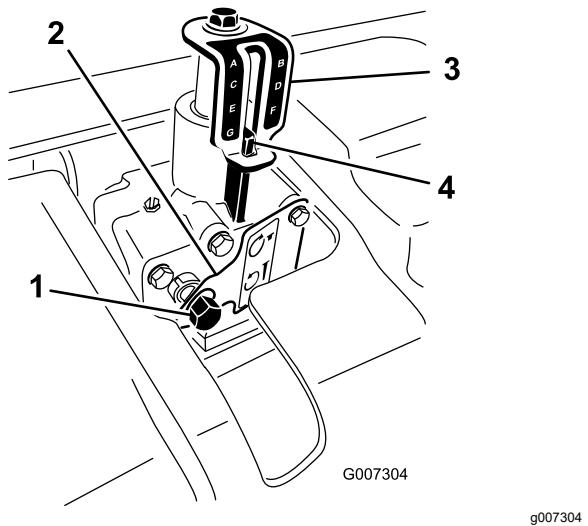

Figure 24
- Insert a 9/16-inch socket with a ratchet onto the depth adjuster input shaft (Figure 24).
5. Rotate the depth adjuster clockwise to reduce the aeration depth or counterclockwise to increase the aeration depth. (Figure 24).
6. Rotate the depth adjuster input shaft until the desired depth is attained as shown on the depth indicator decal (Figure 24).